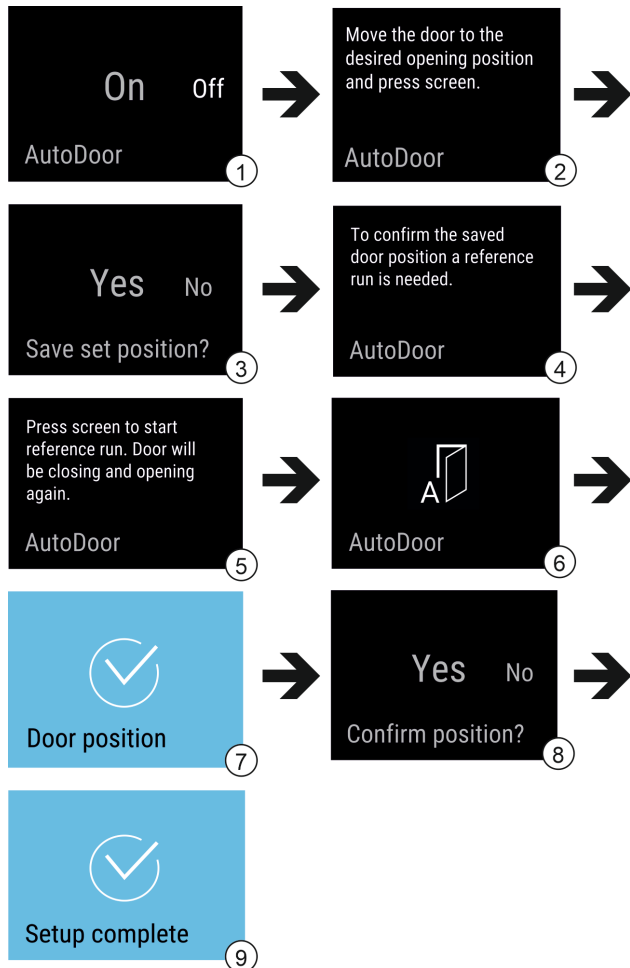

Fig. 13 Example displays in English
- ▶ To activate AutoDoor: Swipe On in the display. Fig. 13 (1)
- ▶ Press the display for 3 seconds. Fig. 13 (1)
- ▶ To configure the door opening angle: Open the door to at least 70°. Fig. 13 (2)
- ▶ To confirm the door opening angle: Tap the message in the display. Fig. 13 (3)
- ▶ To start the reference run: Tap the display. Fig. 13 (5)
- ▶ The display flashes. Fig. 13 (6)
- ▶ The reference run is successful: The display turns blue for 2 seconds. Fig. 13 (7)
- ▶ Confirm the door opening angle. Fig. 13 (8)
- ▶ The display turns blue. Fig. 13 (9)